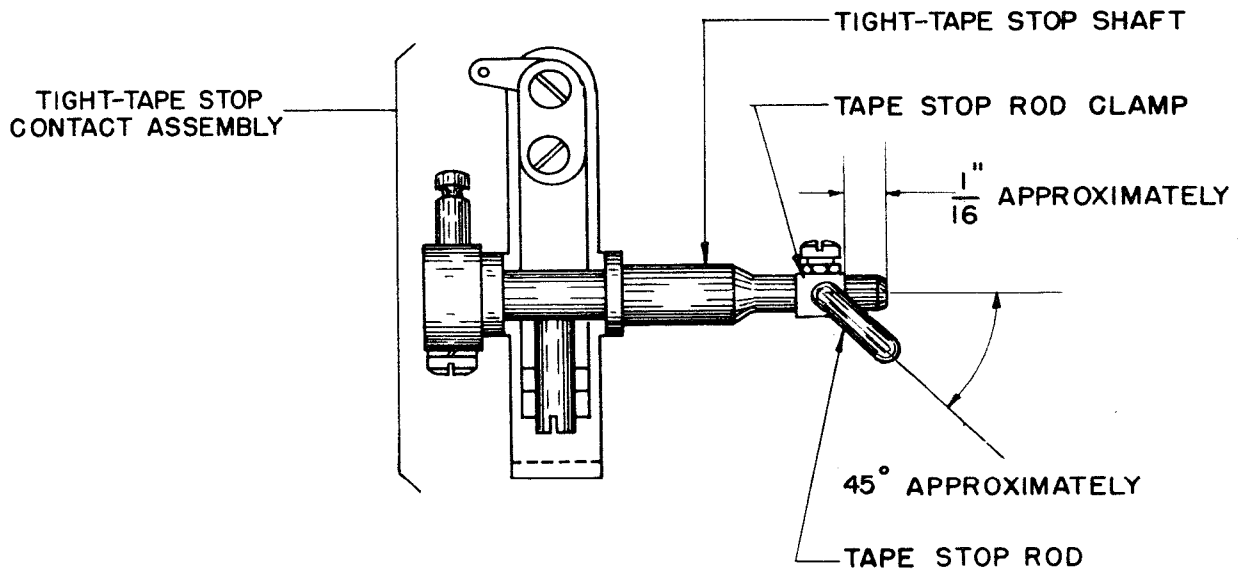

Figure 32
6.04 The loop of the tape-stop rod shall be positioned to the right and downward (when viewing the machine from the front or transmitter end) so that it will make an angle of approximately 45 degrees with the horizontal plane. (See Figure 32.)
6.05 The tight-tape stop shaft shall protrude approximately $\frac{1}{16}$ inch beyond the tape-stop rod clamp. (See Figure 32.)